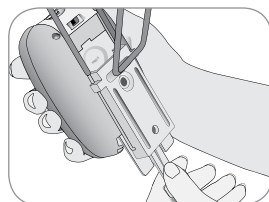

Fig. 12
5. To remove alarm, gently push release lever IN while sliding alarm up and out (fig. 12).